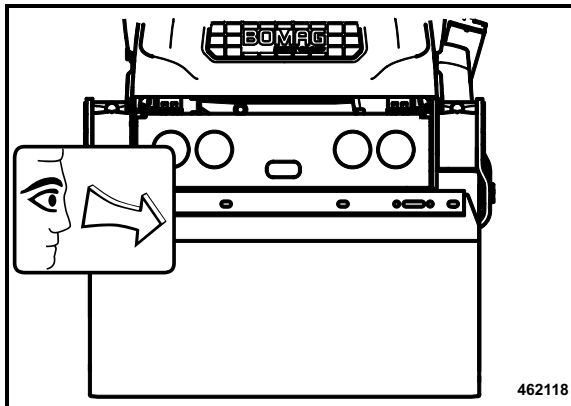

Fig. 142
- Check the scrapers (Fig. 142), adjust if necessary